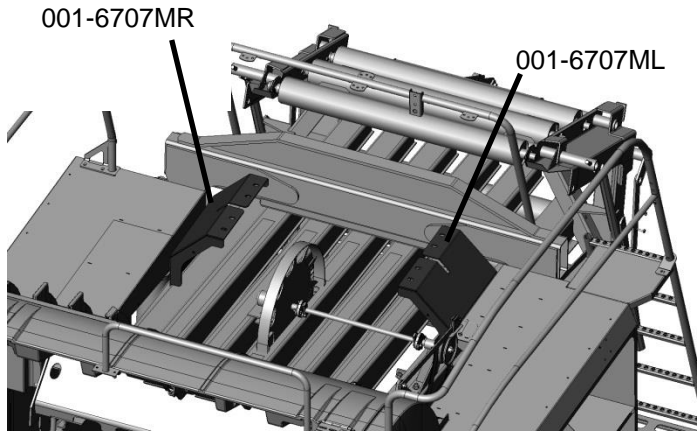

Figure 2
1. Install the two saddle legs (001-6707MR & 001-6707ML) on to the top of the baler chute as shown. Fig 2